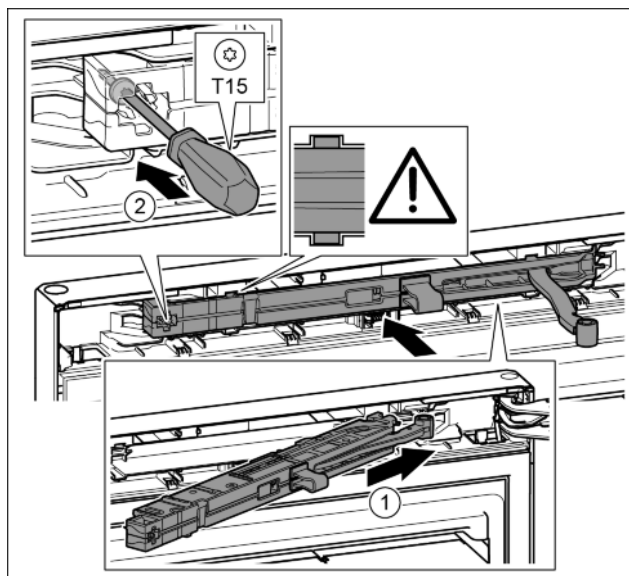

Fig. 38
- Slide the soft-stop mechanism on the bearing bracket at an angle into the gap as far as the limit stop. Fig. 38 (1)
- Tighten the screw with the T15 screwdriver. Fig. 38 (2)